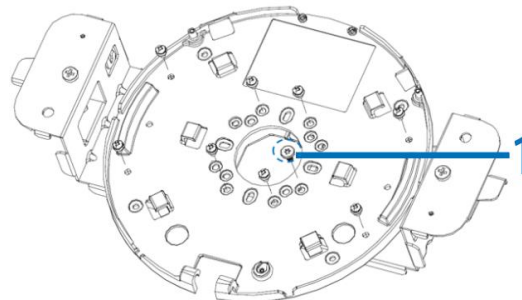

Figure 8
- Remove the safety wire screw (1) (Figure 8) on the mounting plate and place the screw through one of the loops on the end of the safety wire.